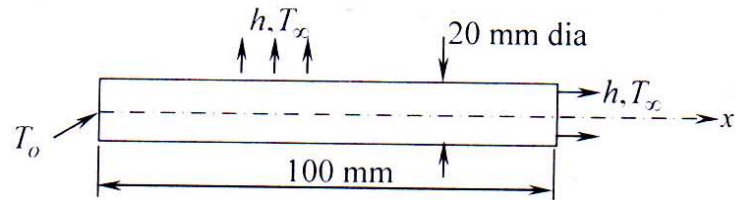

Fig. Q 10
10. Fig Q 10 shows a uniform aluminium fin of diameter 20 mm. The root (left end) of the fin is maintained at a temperature of  $T_0 = 100^\circ\text{C}$  while convection takes place from the lateral (circular) surface and the right (flat) edge of the fin. Assuming  $K = 200 \text{ W/m}^\circ\text{C}$ ,  $h = 1000 \text{ W/m}^2\text{C}$  and  $T_\infty = 20^\circ\text{C}$ , determine the temperature distribution in the fin using a two-element idealization. 20